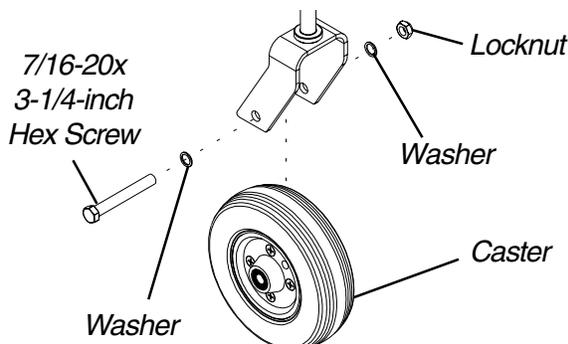

FIGURE 19 - REPLACING STABILIZER WHEEL FOR TYPE A AND TYPE B STABILIZER ASSEMBLIES
**Replacing Stabilizer Wheel for Type C Stabilizer Assemblies (FIGURE 19)**
1. Secure the fork to the caster with one (1) 7/16-20 x 3-1/4-inch hex screw, washer, and locknut.
9. Remove the six (6) socket screws that secure the existing motor/gearbox and battery tray mounting bracket to the wheelchair frame.
10. Position the new motor/gearbox and existing battery tray mounting bracket on the wheelchair frame at the position noted in STEP 8 as shown in FIGURE 19.